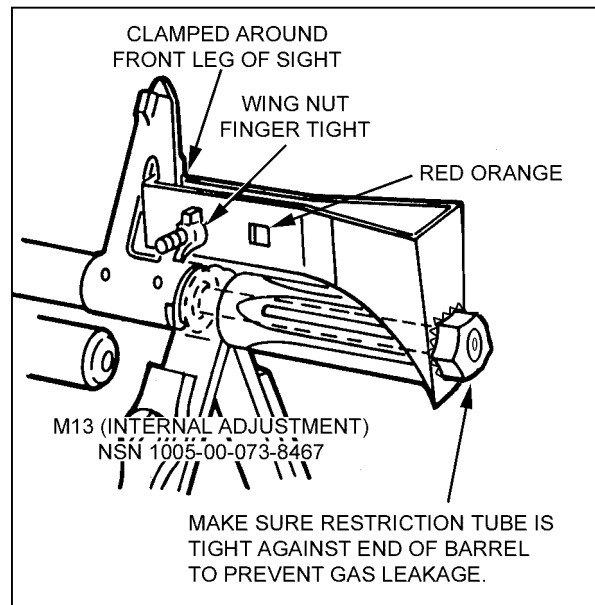

Figure 2-5. M13 blank firing attachment.
a. **Installation of the M13.** The BFA must be adjusted to fit the machine gun barrel. The orifice tube fits inside the flash suppressor, flush against the muzzle and flush with the forward end of the flash suppressor. The BFA is clamped tightly to the front sight (Figure 2-5, page 2-8). When properly adjusted, it will fit snugly against the muzzle, thus preventing the escape of gas during firing. When the BFA is manufactured, the distance the orifice tube screws into the restrictor bushing is fixed and fitted by *staking* the restrictor bushing. This fixed distance, set in the restrictor bushing, does not provide the correct adjustment for every machine gun, because the distance from the muzzle to the forward end of the flash suppressor varies from weapon to weapon. In some instances, the *stake* mark must be broken, the orifice tube adjusted to fit the barrel, and “restaked.”